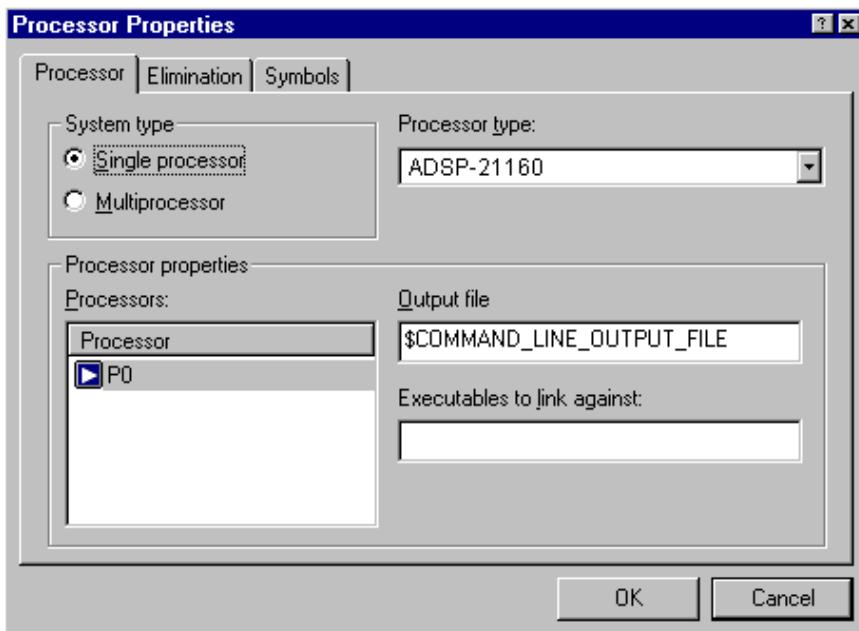

Figure 4-44. Processor Page of the Processor Properties Dialog Box
2. Click the **Processor** tab (Figure 4-44).